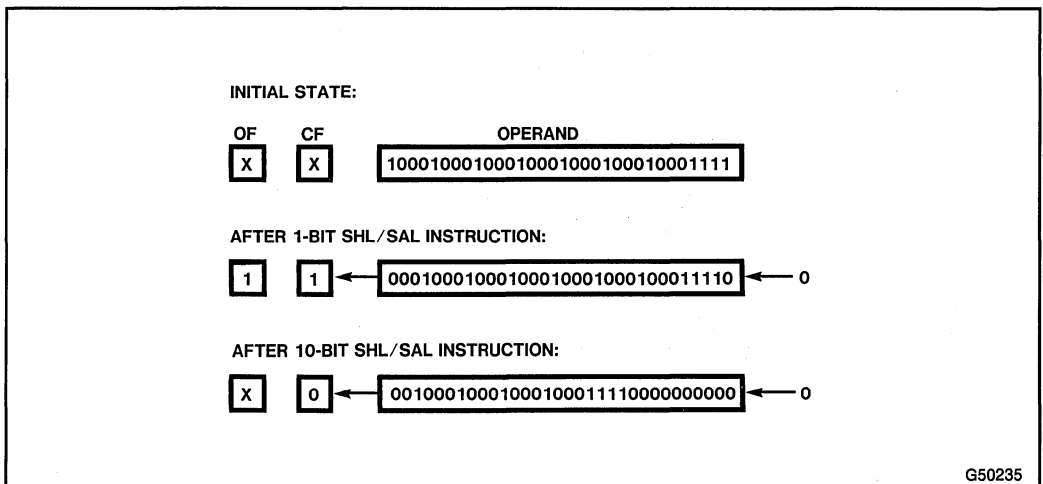

Figure 3-6. SHL/SAL Instruction
**SAL (Shift Arithmetic Left)** shifts the destination byte, word, or doubleword operand left by one bit position or by the number of bits specified in the count operand (an immediate value or a value contained in the CL register). Empty bit positions are filled with zeros. See Figure 3-6.